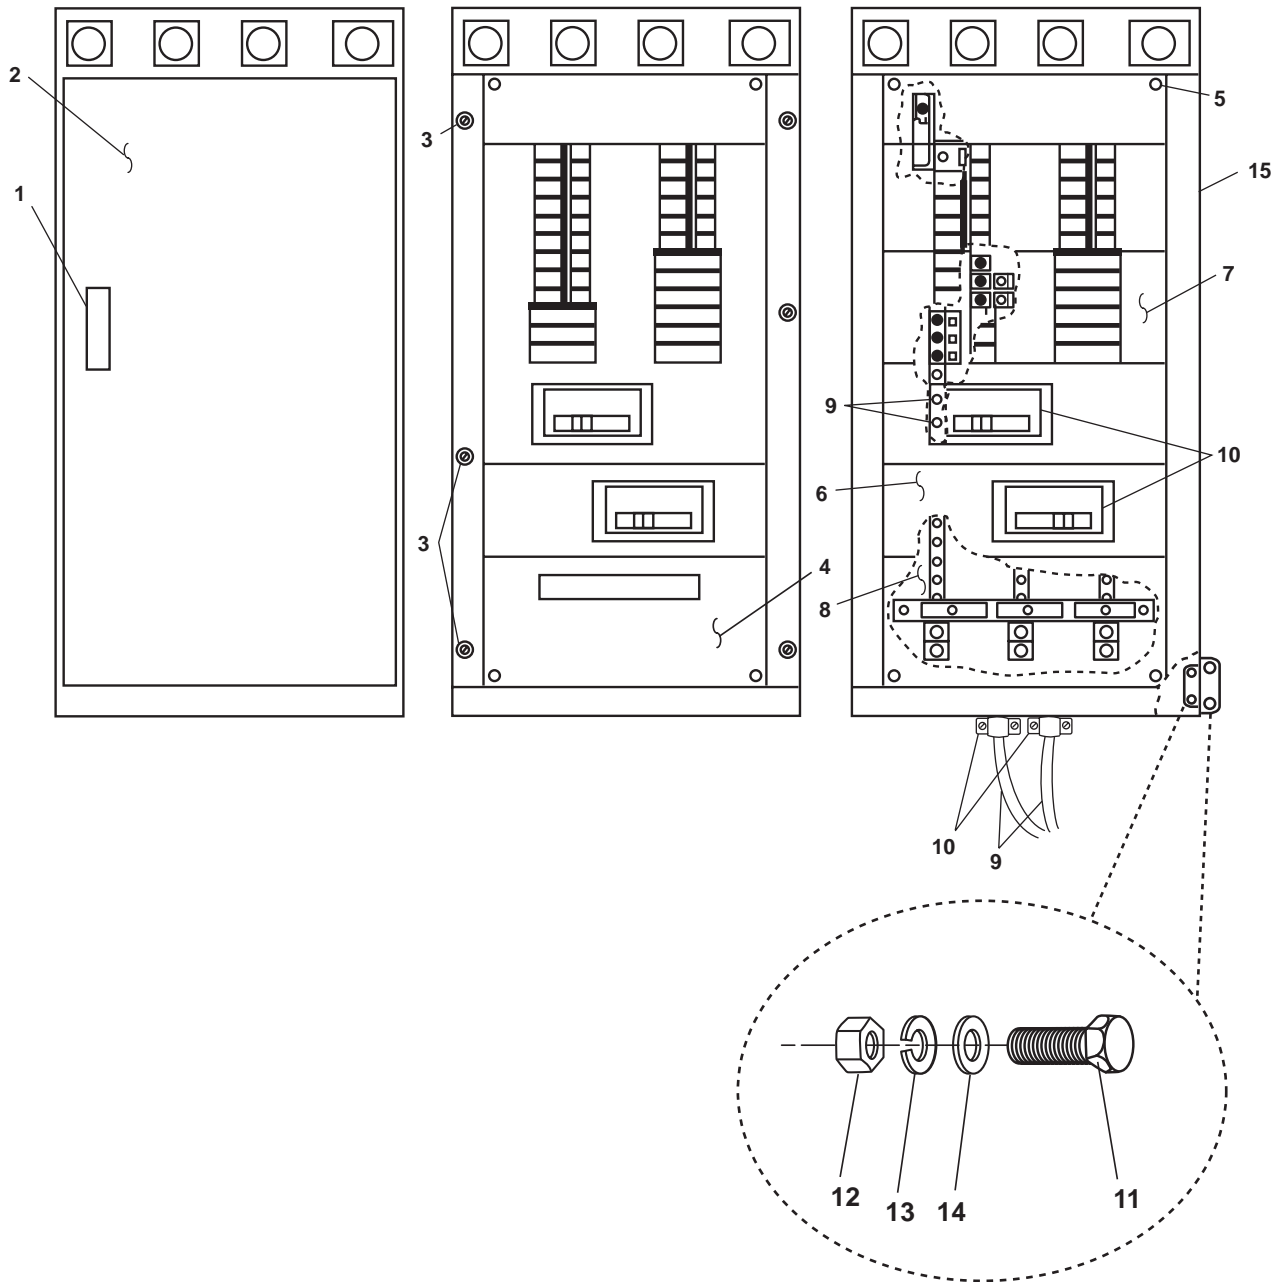

Figure 1. Load Center Distribution Panel Replacement
1. Press the key latch (figure 1, item 1) and open the door (figure 1, item 2).
2. Loosen the six captive screws (figure 1, item 3) on the face panel (figure 1, item 4) and remove it.
3. Remove the four screws (figure 1, item 5) from the inner panel (figure 1, item 6). Remove the inner panel.
4. Use a multimeter to check for voltage at the circuit breaker(s) (figure 1, item 7) and the bus bar(s) (figure 1, item 8). If voltage is present, ensure that the proper circuit breakers have been secured, locked out, and tagged out (FM 55-502). If no voltage is present, continue with the procedure.
5. Label and remove the wiring (figure 1, item 9) from the circuit breakers (figure 1, item 7) and the bus bars (figure 1, item 8). Loosen the strain relief clamps (figure 1, item 10).
6. Remove the circuit breakers (figure 1, item 7) (WP 0113 00, volume 1).
7. Remove the four bolts (figure 1, item 11), four hex nuts (figure 1, item 12), four lockwashers (figure 1, item 13), and four flat washers (figure 1, item 14). Discard the lockwashers.
8. Remove the load center distribution panel (figure 1, item 2) from the bulkhead.
1. Install the load center distribution panel (figure 1, item 15) on the bulkhead and secure it with the four bolts (figure 1, item 11), four hex nuts (figure 1, item 12), four new lockwashers (figure 1, item 13), and four flat washers (figure 1, item 14).
2. Install the circuit breakers (figure 1, item 7) (WP 0113 00, volume 1).
3. Route the wiring (figure 1, item 9) into the load center distribution panel and secure it in place with the strain relief clamps (figure 1, item 10).
4. Connect the wiring (figure 1, item 9) to the bus bars (figure 1, item 8) and the circuit breakers (figure 1, item 7) using the labels from step 5 of Removal as a guide. Remove the labels.
5. Install the inner panel (figure 1, item 6) on the load center distribution panel (figure 1, item 15) and secure it with the four screws (figure 1, item 5).
6. Install the face panel (figure 1, item 4) and the door (figure 1, item 2) on the load center distribution panel and secure them with the six captive screws (figure 1, item 3).